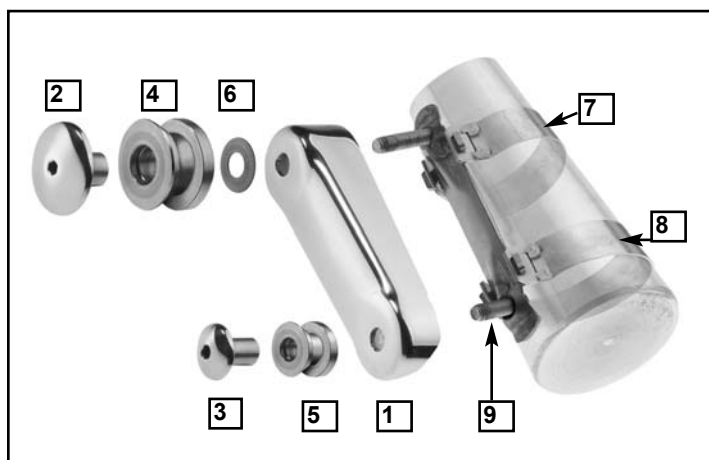
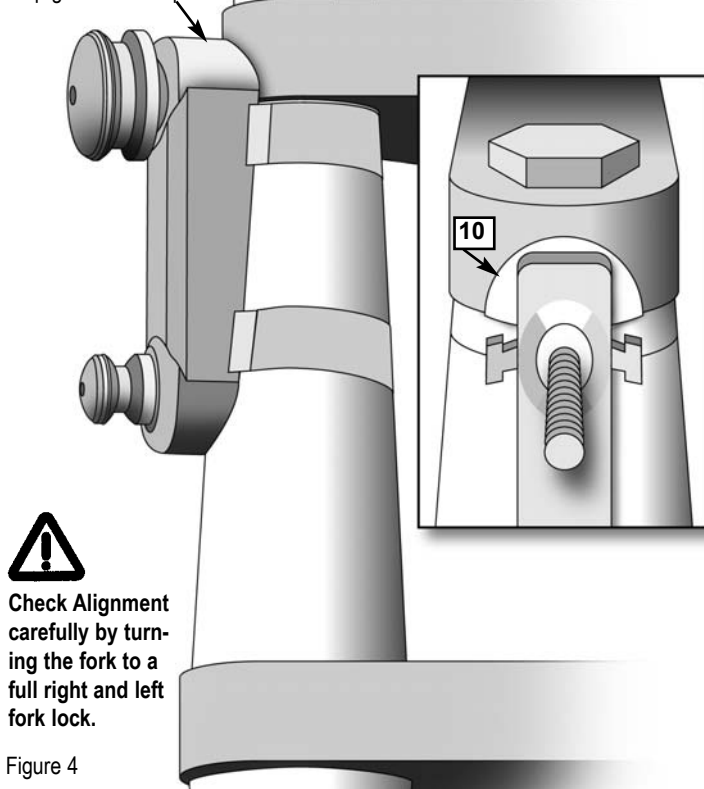

Figure 2.
Figure 4
5. Position the Mounting Cup (1) on to the Spider Bracket so the studs protrude from the holes. **Figure 2.**
The longer side of the Mounting Cup always goes on the top. Figure 4.
6. Place a Brass Washer (6) onto the top stud. **Figure 2.**
7. Push the large Upper Nut (2) into the large Upper Spool (4) so the thin side of the spool is near the head of the Upper Nut. **Figure 2.**
9. Assemble the Lower Spool (5) and Lower Nut (3) so the thin side of the Spool is near the head of the Lower Nut.
12. Verify that the Burr Barriers (10) are located between the Mounting Cup end and any aluminum part, fork or triple clamp. **Figure 4.**